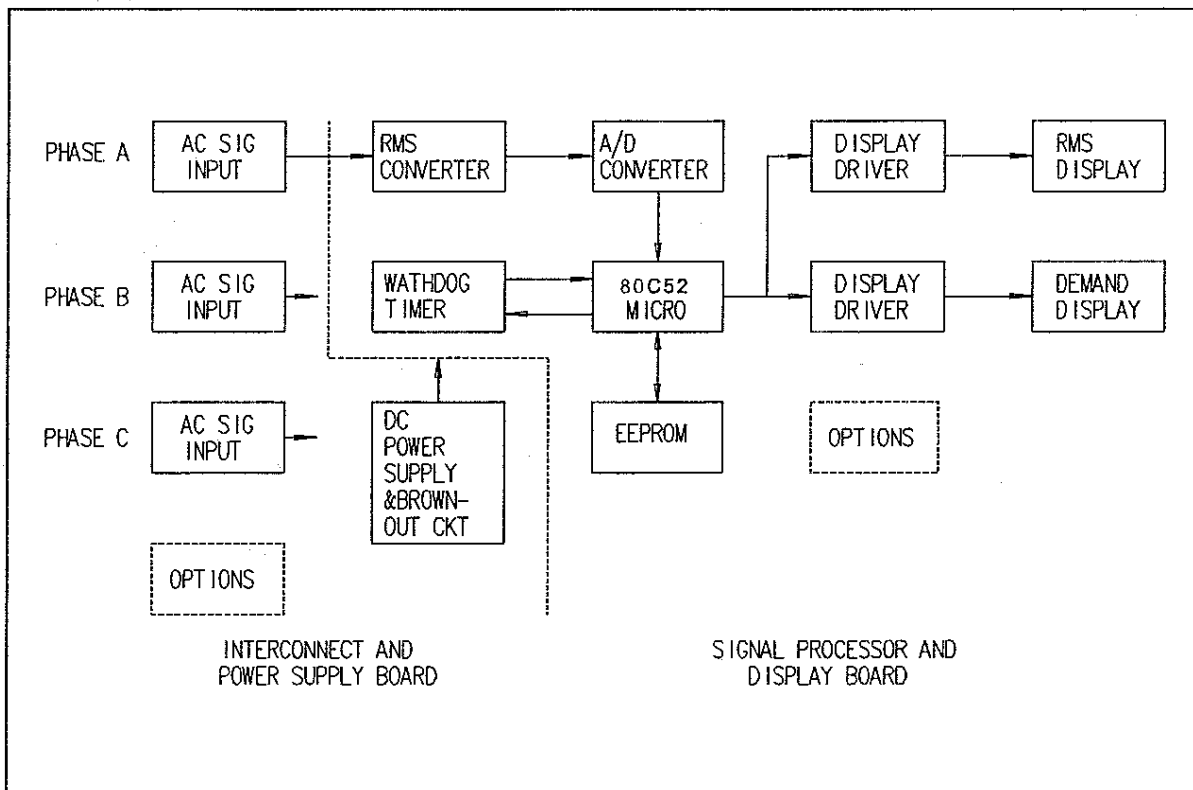

Figure 1 – Triple II Functional Block Diagram
To better understand the functioning of the Triple II demand meter, consider the block diagram shown in Figure 1. There are four main circuit boards in the instrument: (1) one interconnect and power supply board, and (2) three signal processing and display modules. Option boards, if present, plug into the modules and interconnect board.